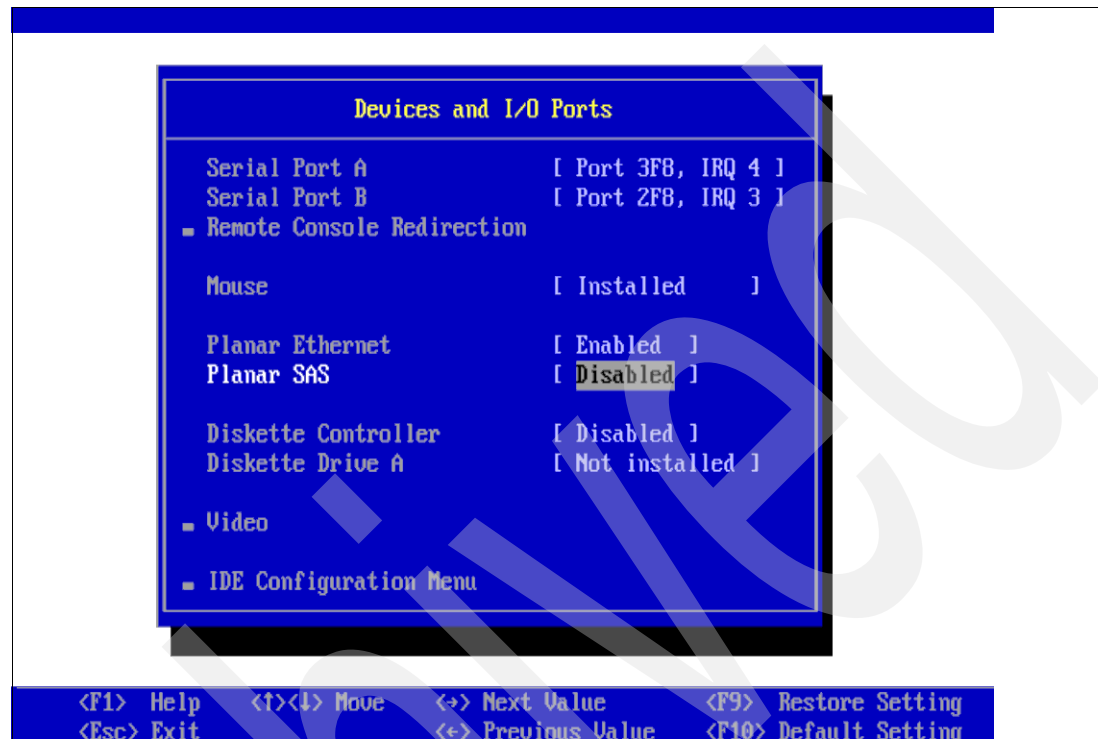

Figure 27-8 Disabling internal boot device
- Depending on the internal disk technology of the host server, you have to disable this internal boot device. In our example, the System x server uses internal SAS disks. We disable the onboard Planar SAS, as shown in Figure 27-8. If available, select the IDE/SAS/SATA configuration menu and disable the primary and secondary.